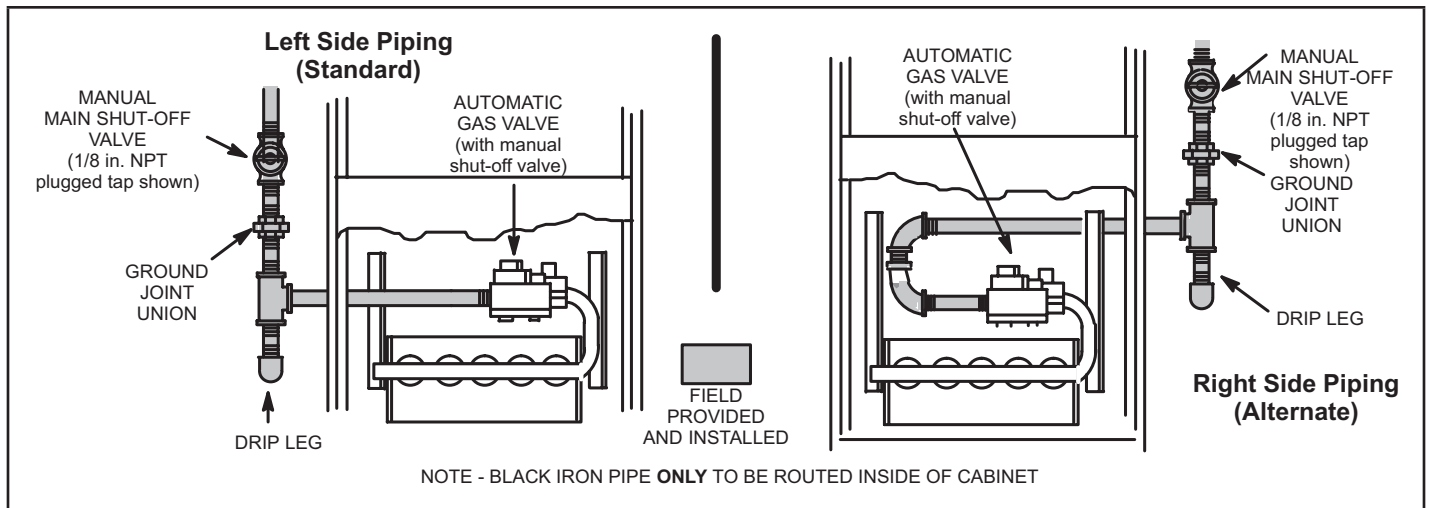

FIGURE 50
- 1 - Gas piping may be routed into the unit through either the left- or right-hand side. Supply piping enters into the gas valve from the side of the valve as shown in FIGURE 50. The maximum torque is 800 in lbs and minimum torque is 350 in lbs when attaching the gas piping to the gas valve.
- 3 - Gas piping must not run in or through air ducts, clothes chutes, chimneys or gas vents, dumb waiters or elevator shafts. Center gas line through piping hole. Gas line should not touch side of unit. See FIGURE 50 .